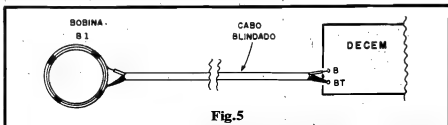

Fig.5
- **FIG. 5 - LIGANDO A BOBINA "B1" COM CABO BLINDADO**